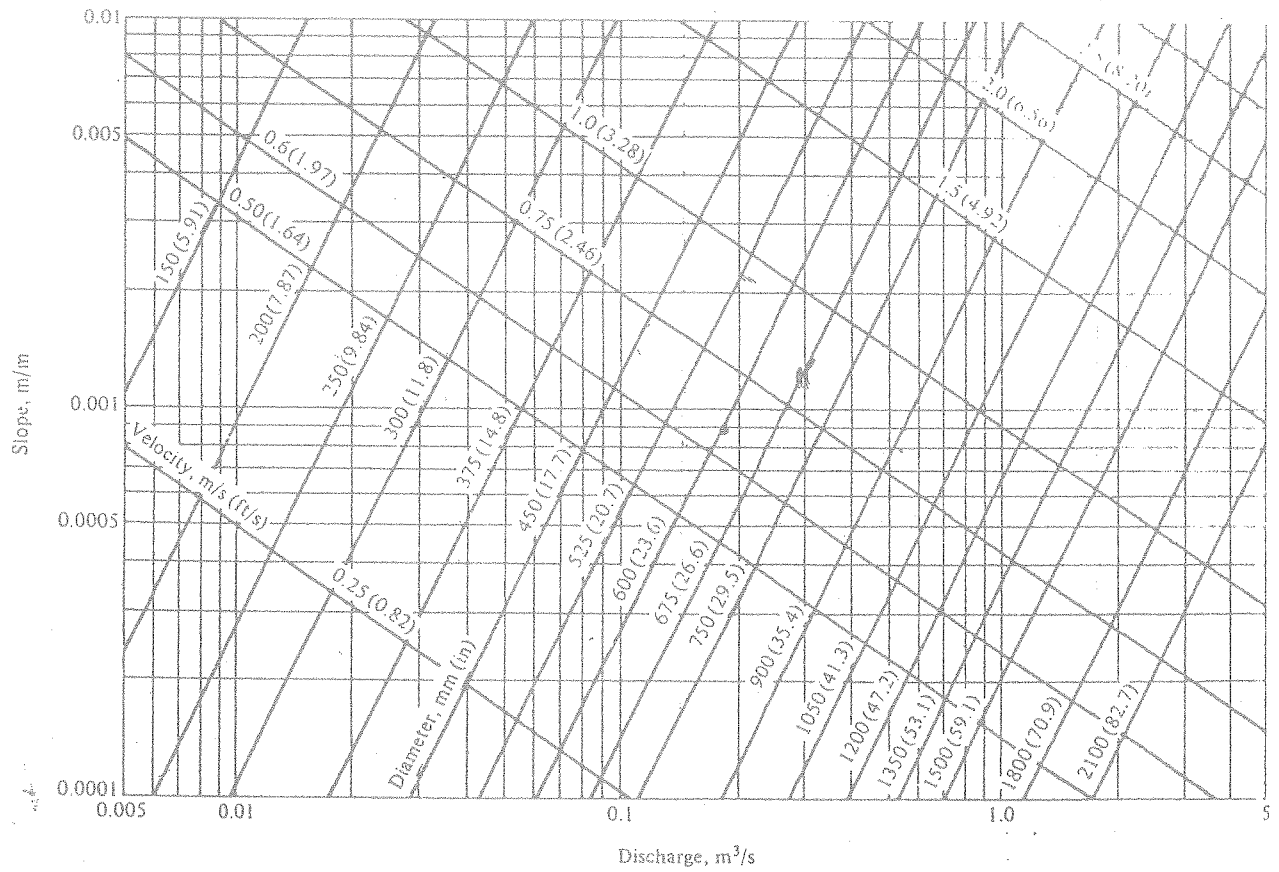

Figure Q1: Nomograph for solution of Manning's equation for $n = 0.013$
- Q1. Design a gravity-flow trunk sanitary sewer for the street given in Table Q1 (a) from the junction *J* to the junction *L* via the junction *K*. Major manholes are located at the junctions *J*, *K* and *L*. The design should include the design flow rates, pipe diameters, pipe slopes and the pipe invert elevations. Assume that the infiltration rate is negligible. Table Q1 (b) gives the design criteria. For the hydraulic design calculations, use the Manning equation [Figure Q1]; $V = (1/n)R^{2/3}S^{1/2}$, where V = velocity (m/s); n = friction factor (0.013); R = hydraulic radius = cross-sectional area of flow (m^2)/wetted perimeter (m); S = slope of energy grade line (m/m).